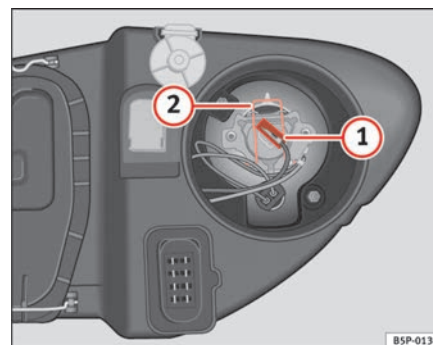

Fig. 182 Main beam headlights
- Remove the connector ⇒ fig. 182 ① from the bulb.
- Press the spring ⇒ fig. 182 ② inwards and to the right.